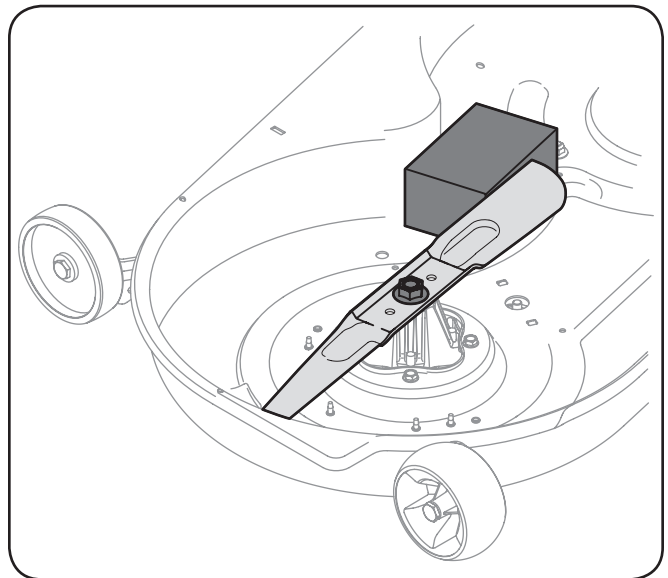

Figure 7-4
2. Place a block of wood between the center deck housing baffle and the cutting blade to act as a stabilizer. See Figure 7-4.
3. Remove the hex flange nut that secures the blade to the spindle assembly. See Figure 7-4.